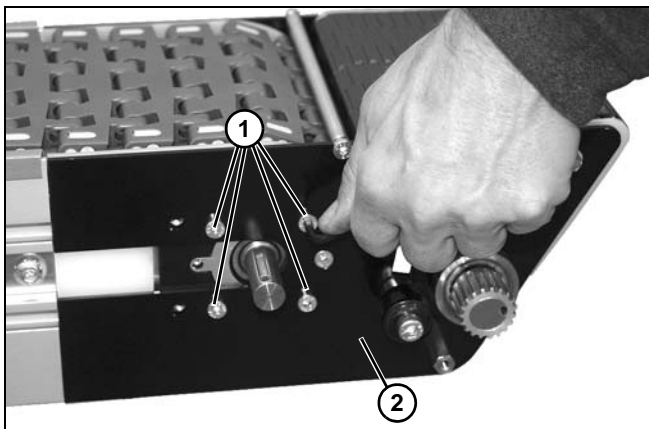

Figure 145
13. Install four socket head screws (**Figure 145, item 1**) securing power transfer tail (**Figure 145, item 2**). Repeat on opposite side.